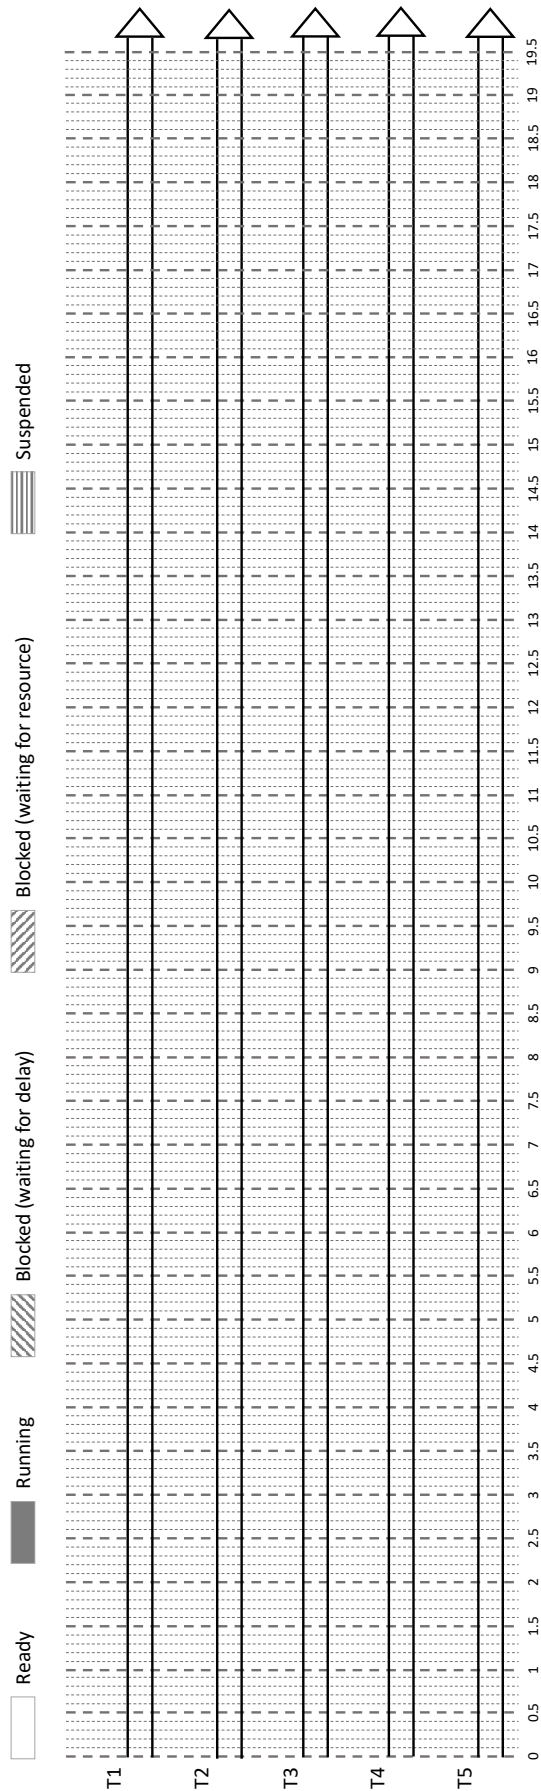

FIGURE 1.3 – Non Preemptive Priority scheduling trace.
3. Scheduling with priority without preemption (Non Preemptive Priority scheduling), the priorities being as follows : $P(T_1) = 2, P(T_2) = 4, P(T_3) = 2, P(T_4) = 1, P(T_5) = 3$. A higher priority corresponds to a greater number (0 = lower priority). Always use FCFS for arrival order (cf figure 1.3).